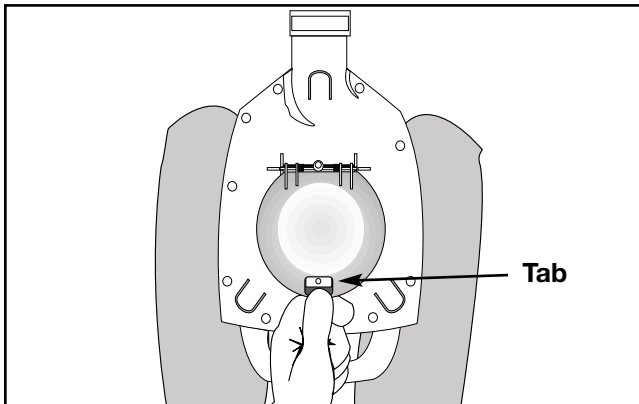
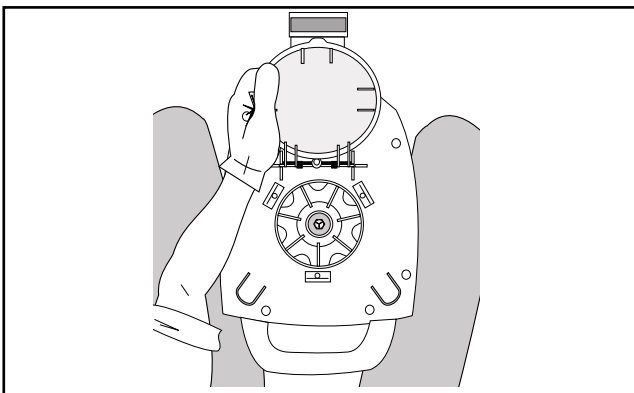

Fig. 5
Fig. 6
2. Push the door lock tab in the direction shown in Fig. 5 and open the door (Fig. 6).